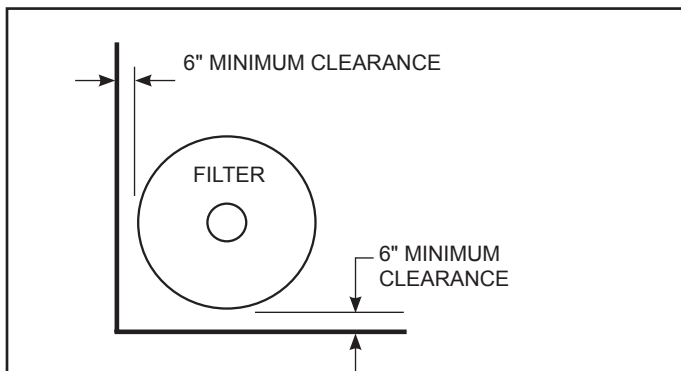

Figure 2. Filter Location
- Allow sufficient clearance around the filter. See Figure 2.